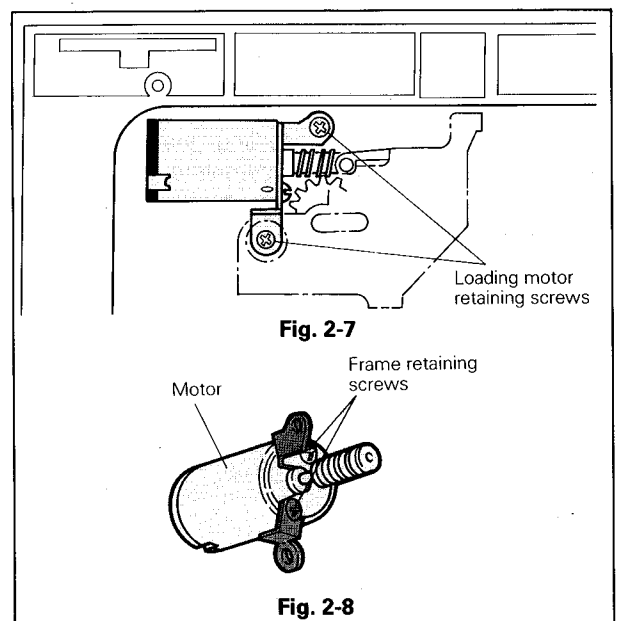

Fig. 2-7
- Remove the two loading motor retaining screws shown in Fig. 2-7, then pull out the motor.